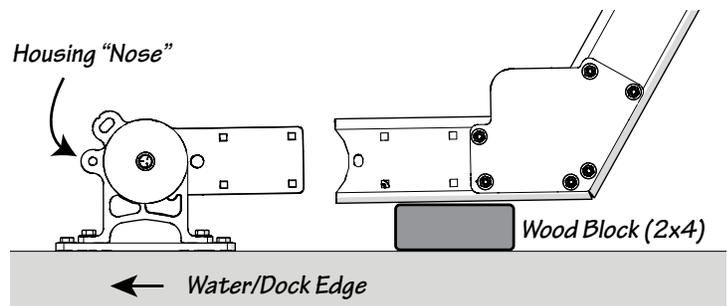

Fig. 7-2
- Before attaching the ladder to the base it maybe helpful to place a block of wood (2x4) under the Nauti Step Lite Dock Ladder as shown in Fig. 7-2.